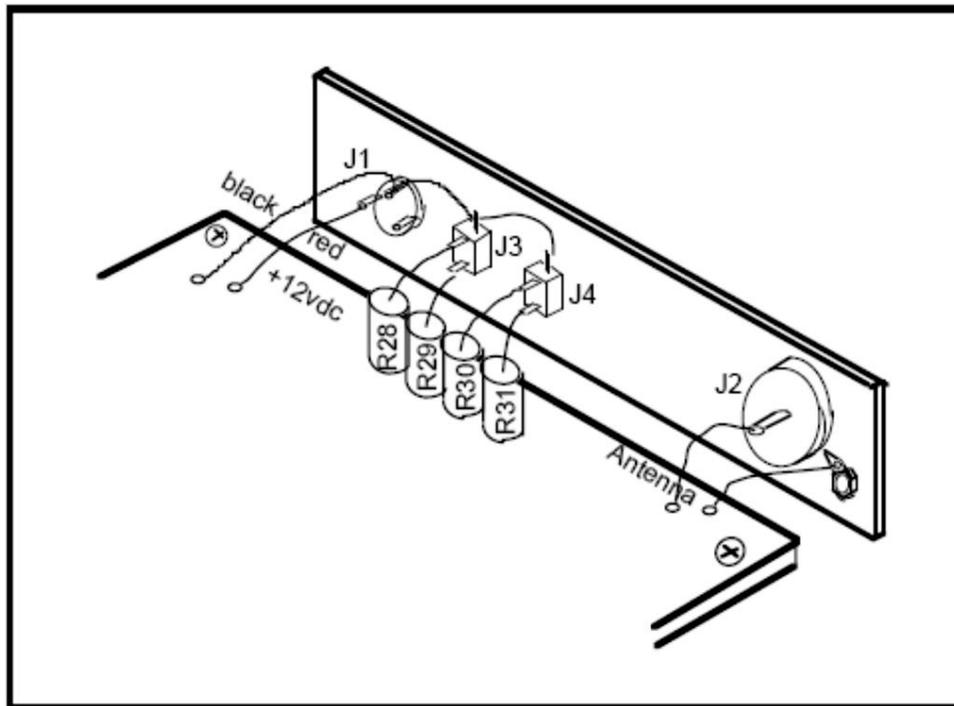

Figure 13. Rear panel wiring (resistor R32 not shown)
14.  Install one end of each fixed resistor R28-R31 on the PC board. Leave about ¼ inch of lead between each resistor and the board. The other end of each resistor will be soldered later to the audio jacks (see Figure 13).
6. □ Install the red wire from the power connector to the PC board hole labeled +12 vdc (Figure 13). Install the black wire from the power connector to the ground hole on the PC board adjacent to the screw hole in the corner. The location of these wires on the PC board is easily seen in the X-ray view (Figure 4).
7. □ Complete installation of resistors R28, R29, R30 and R31 as shown in Figure 13. Leave a little extra lead length so that the resistor leads are not taut. First solder R29 and R31 on the bottom tabs of the two audio connectors. Then solder R28 and R30 to the top horizontal tabs as shown in Figure 13. Trim excess lead wires after soldering.